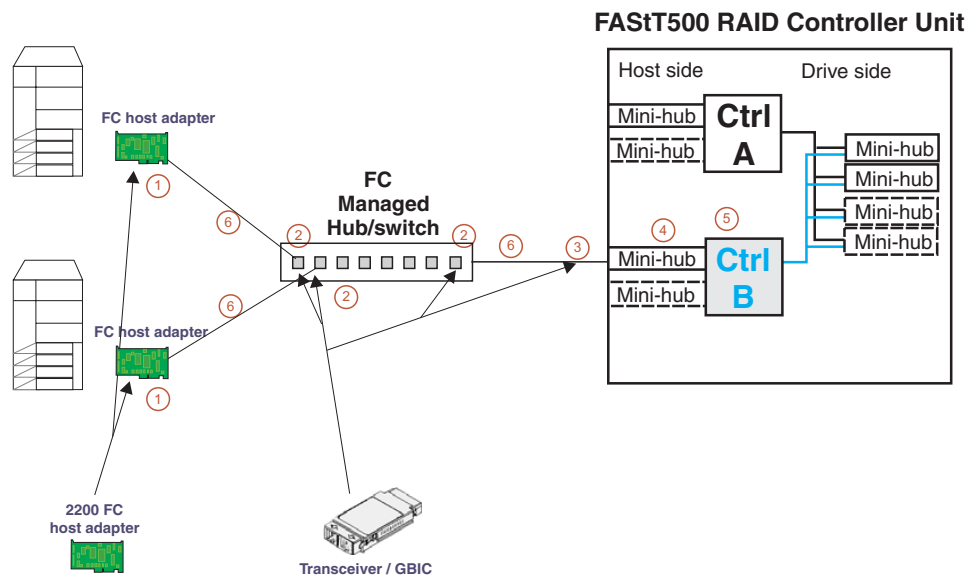

Figure 126. Path elements loop
3. To see more clearly what is involved, redraw the configuration showing the path elements in the loop, as shown in Figure 126 on page 283.
The elements of the paths shown in Figure 126 are as follows: